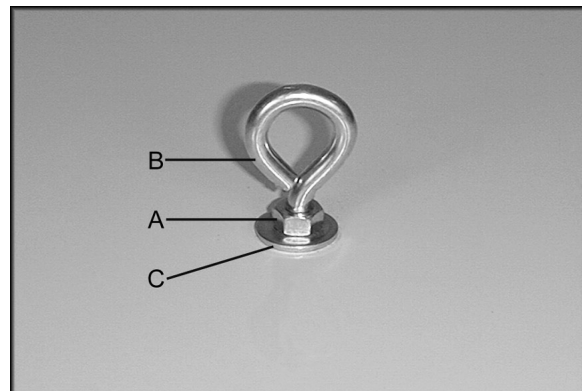

Figure 2
2. Make sure the hex nut (A, Figure 2) is threaded all the way up the eyebolt (B, Figure 2).
3. Place a flat washer (C, Figure 2) on the eye bolt. Screw the eye bolt into the cabinet and tighten hex nut against the cabinet top. You will need to hold the eyebolt so it does not spin while tightening the hex nut.